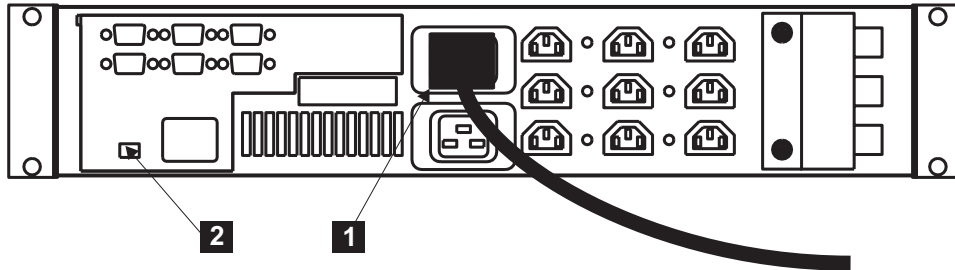

Figure 78. Installing the uninterruptible power supply 5125 power cable
9. At the back of the UPS 5125, plug the UPS 5125 main power cable into the power socket, **1** in Figure 78 on page 206.